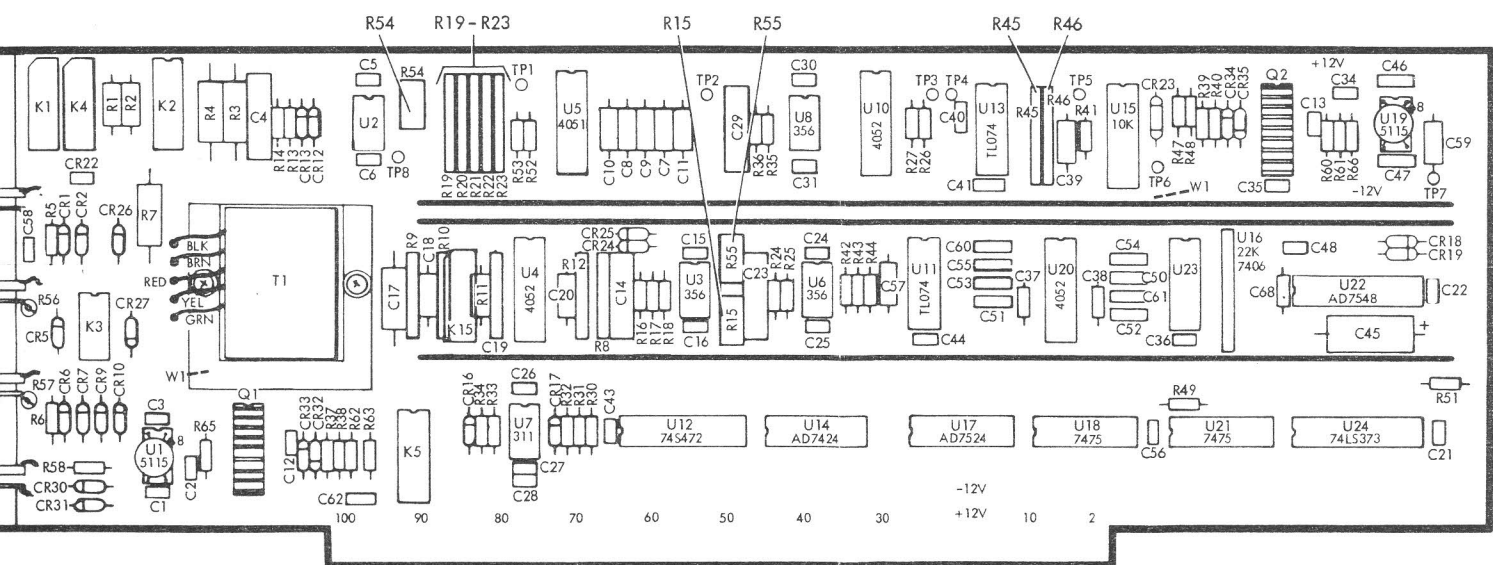

Figure 4-1. Analog Circuit Assembly and Trimmer Locations
STEP 3. Connect a 1 ohm resistor in series with the LO DRIVE (LD) test lead. Be sure to maintain the LD shield connection.
STEP 4. Adjust trimmer R46 (see Figure 4-1) until the CRT display reads the same Rs value as noted in Step 2, $\pm 200\mu\Omega$.
STEP 9. Adjust trimmer R45 (see Figure 4-1) until the CRT display reads the same Rs value as noted in Step 7, $\pm 800\mu\Omega$.
4.2.3 High and Low Frequency (D) Phase Adjustments (Analog)
- STEP 17. Adjust trimmer R19 (see Figure 4-1) for a D reading of the calibrated value, ± 0.0005 .
- STEP 18. Remove the 136nF capacitor and insert the 10nF D standard. Adjust trimmer R20 (see Figure 4-1) for a D reading of the calibrated value, ± 0.0003 .
- STEP 19. Remove the 10nF capacitor and insert the 1nF D standard. Adjust trimmer R21 (see Figure 4-1) for a D reading of the calibrated value, ± 0.0003 .
- STEP 21. Remove the 1nF capacitor and insert the 330pF D standard. Adjust trimmer R22 (see Figure 4-1) for a D reading of the calibrated value, ± 0.0002 .
- STEP 23. Remove the 330pF capacitor and insert the 150pF D standard. Adjust trimmer R23 (see Figure 4-1) for a D reading of the calibrated value ± 0.0001 .
- STEP 25. Remove the 150pF capacitor and insert the 1uF D standard. Use the extender card to position the analog card above the instrument. Adjust trimmer R15 (see Figure 4-1) for a D reading of the calibrated value ± 0.00010 .